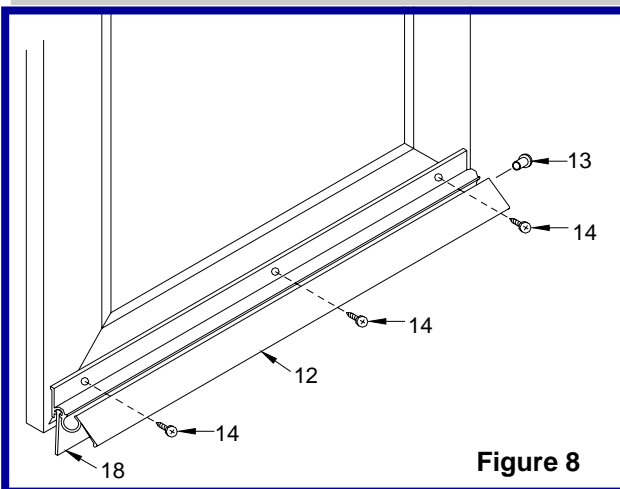

Figure 8
- Insert drip channel vinyl (18) into drip channel (12) & trim to size. (See Figure 8)
- Insert plastic drip channel plug (13) into end of drip channel.
- With door closed, position drip channel on inside of door with a slope to the hinge side (8).
- Secure with three #6x $1/2$  PH SMS (14).